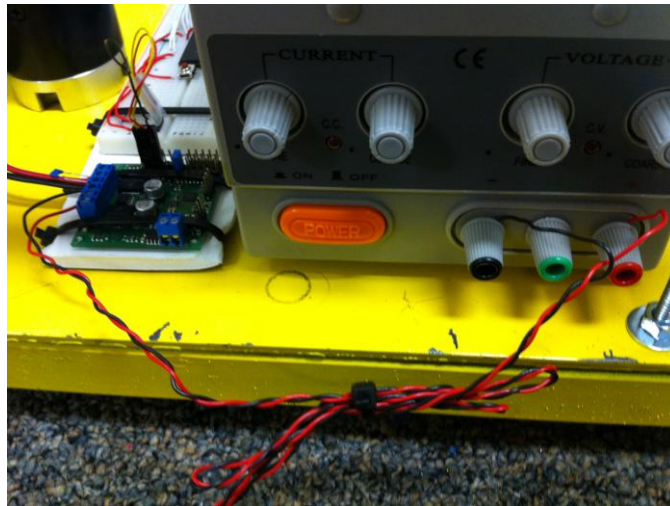
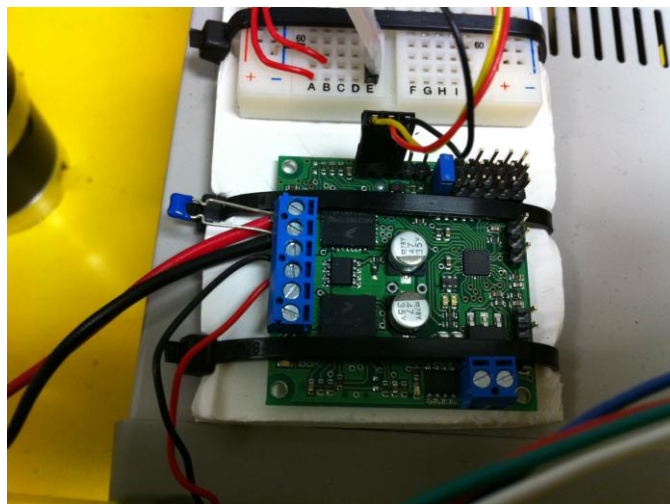

Figure 40 – Electrical connection from power supply to motor controller
Figure 41 – Electrical connection for motor controller
- c. Connect the motor controller to both the motor and the power supply, as shown in Figure 40 and Figure 41.
Note that the motor and power supply must be connected in the same order as is shown in Figure 40 and Figure 41. If facing the six blue connection-points on the motor controller, they are filled as follows (from left to right):